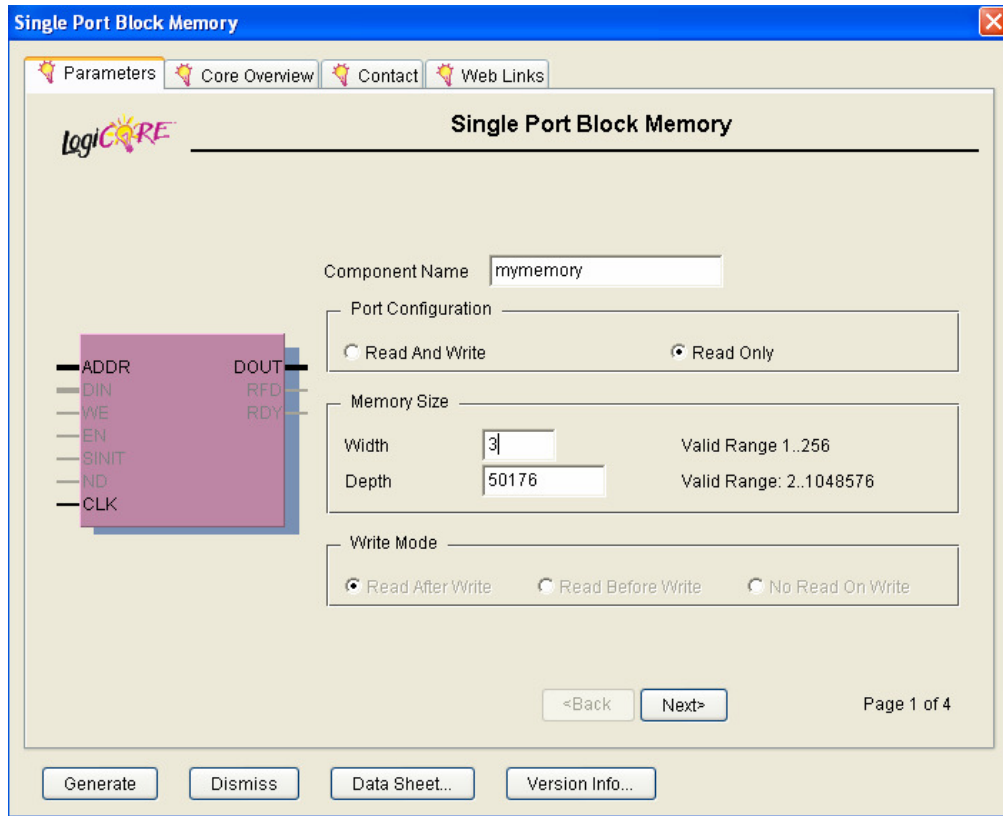
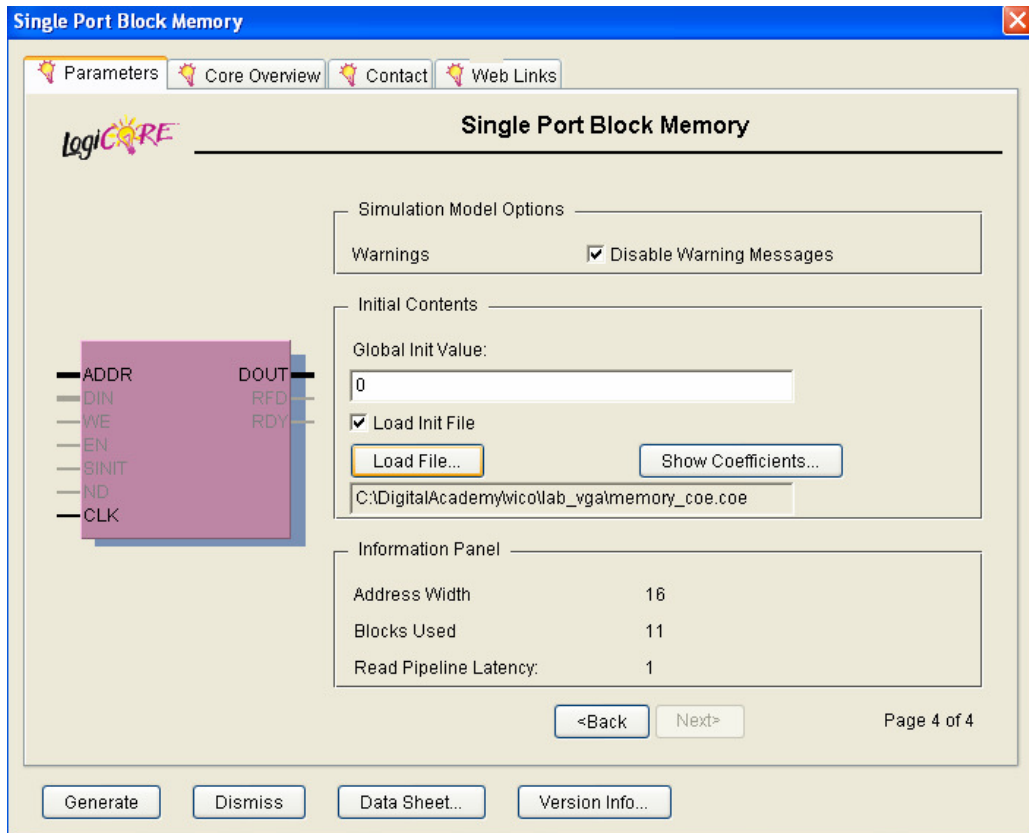

Figure 4. Single Port Block Memory.
Figure 5. Single Port Block Memory. Page 4 of 4.
d. In the next window you will select the characteristics of your memory (Figure 4). Since you will not store data in your memory, choose the option **Read Only** under **Port Configuration**. The image that we will use has 224 rows and 224 columns (224x224 image) and we will use only 1 bit per color. Since the VGA controller use three main colors (Red, Green and Blue), the **width** of our memory is **3** and the **depth** is $224 \times 224 = 50176$ (50176 possible locations). Click on **Next** three times until you get the **Page 4 of 4** (Figure 5).
e. In this window, we will load the memory with the values of our image (Figure 5). The file **memory_coe.coe** has all the values stored in the format that Xilinx uses for its memories. Check the option **Load Init File** and then click on **Load File**. Look for the file **memory_coe.coe** and open it. You will have loaded the memory values in your memory (Figure 5).